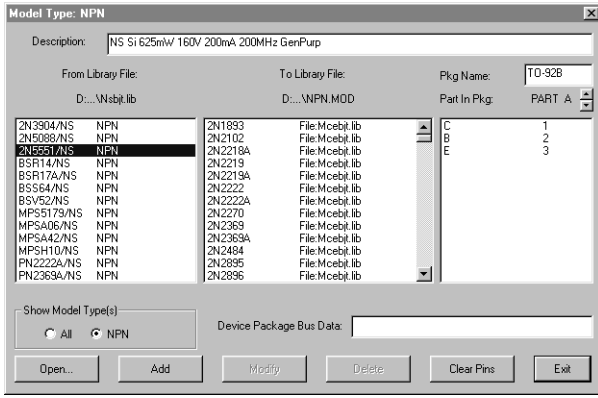

Figure 17.15. Use this dialog box to add, modify, and remove linking information.
- 3 Click **Model Data** to display the dialog box pictured in Figure 17.15.